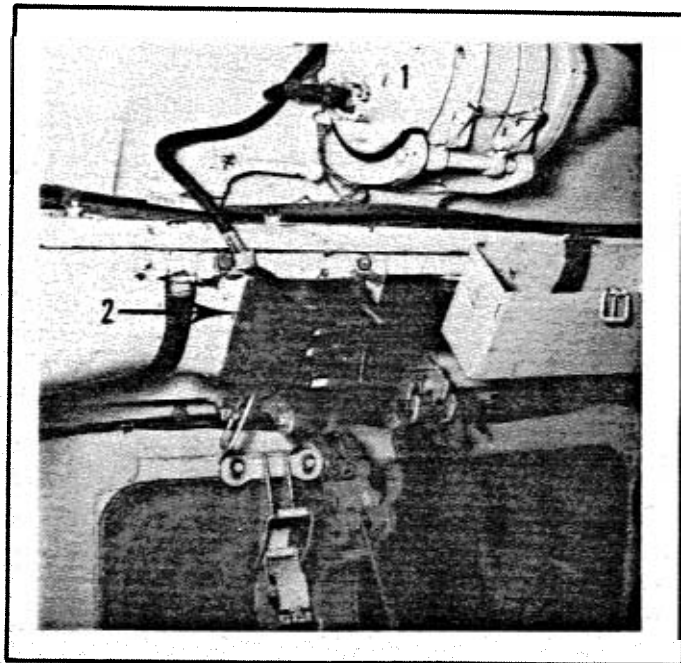

FIG. 3-65. LOADER'S INTERCOM BOX
o. Communications (Fig. 3-65). The loader has access to his own intercommunication junction box (US) that is located to his rear on a protective plate that covers the turret ring.